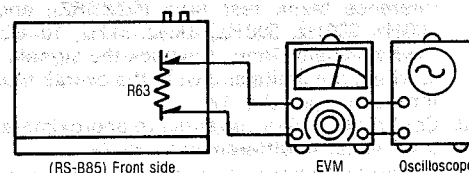

Fig. 12
1. Test equipment connection is shown in fig. 12.